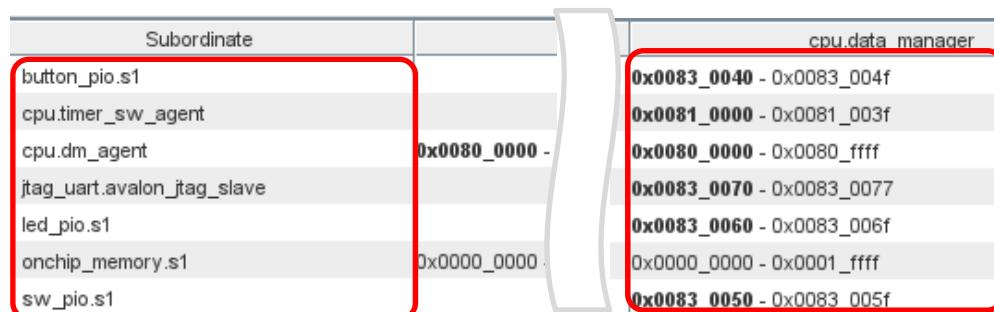

Figure 18 Checking the peripheral IO area
4. Set the Peripheral Regions. For Nios® V/g which implements cache, when performing non-cache access, the target area must be set as Peripheral Regions. Click the **Address Map** tab in Platform Designer and check the address map. In our system, the target area for non-cache access is all areas except On-Chip RAM. As shown in [Figure 18], the IO area is placed between 0x0080_0000 and 1MB area.